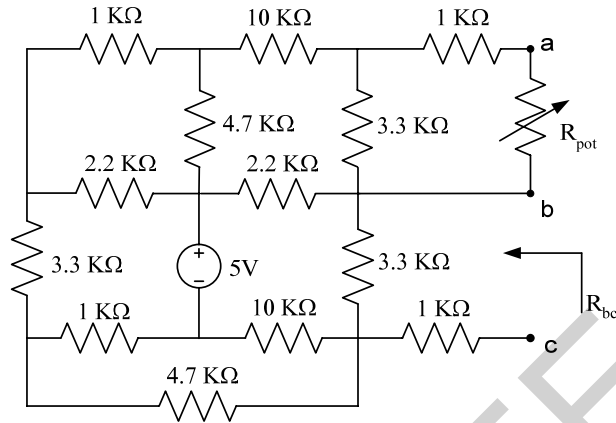

Figure 7.5: Resistance measurement using potentiometer method
2. Now connect a potentiometer in between terminals a and b as shown in Figure 7.5. Vary the pot until the voltage $V_{ab} = \frac{V_{OC}}{2}$.